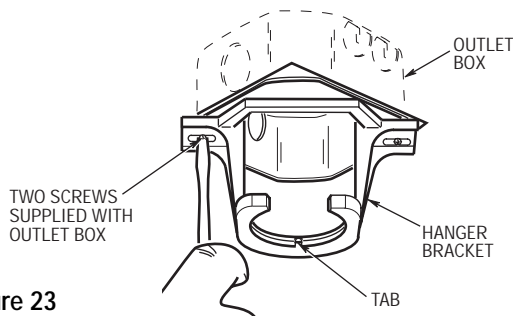
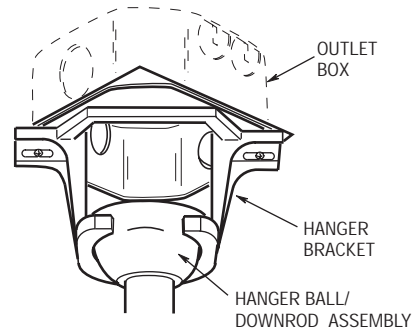

Figure 23
Figure 24
17. Securely attach the hanger bracket to the outlet box using the two screws supplied with the outlet box (Figure 23).
18. Carefully lift the fan and seat the hanger ball/downrod assembly on the hanger bracket that was just attached to the outlet box (Figure 24). Be sure the groove in the ball is lined up with tab on the hanger bracket (Figure 23).